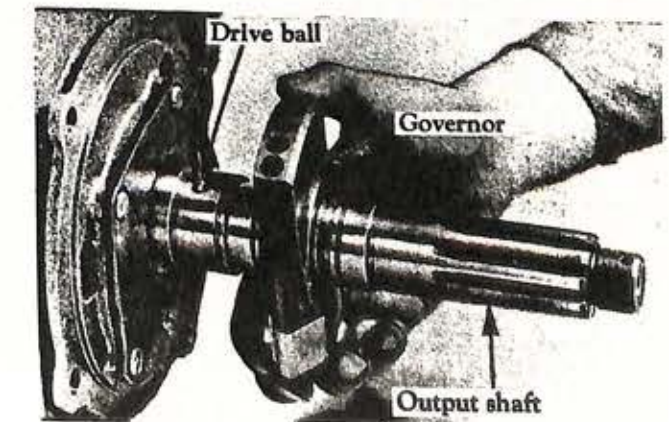

Fig. 48
2. Slide the governor assembly off the output shaft (Fig. 48) then remove the governor drive ball.